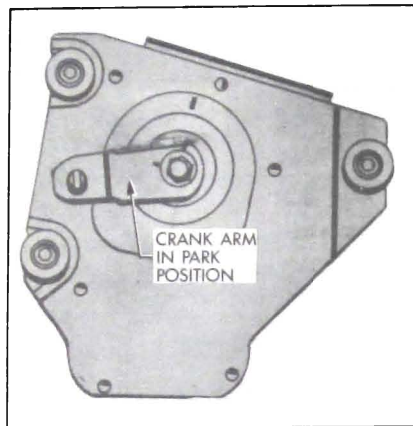
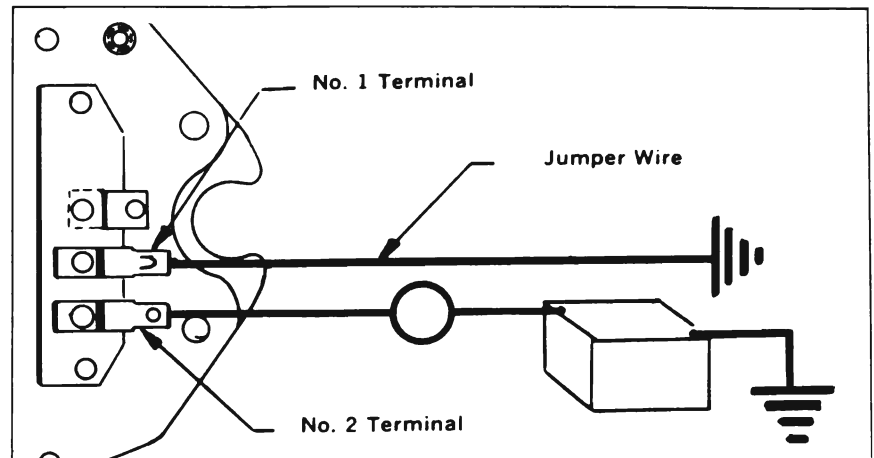

Figure 10-102—Park Position of Crank Arm
Figure 10-104—Connections to Operate Wiper Out of Car
When the car owner shuts the wiper "off" at the dash switch, the motor circuit to ground is opened at the dash. However, the parking switch contacts, which are normally closed, maintain the motor circuit to ground at the wiper. This allows the wiper to keep operating until the blades or wiper crank arm reach the park position (Blades approx. 2" above windshield molding). (Figure 10-102 shows the crank arm in park position.) At the same time the blades reach the park position, a cam on the output gear opens the park switch contacts. This opens the motor circuit to ground, stopping the motor. Thus, the park switch actually controls wiper operation only during that short period of time, after the owner turns the wiper "off" at the dash switch but before the wiper has completely stopped.
Figure 10-104 shows the proper method of connecting jumper leads to the wiper so that it can be operated independently of the dash switch or car wiring for test purposes. (NOTE: Specification table at end of this section lists current draw data.)
operate, disconnect wiring harness from wiper and check for 12 volts at harness terminal that connects to wiper terminal No. 2, Figure 10-104. No voltage indicates defective car wiring. **CAUTION: DO NOT connect hot line to No. 1 terminal.**
(c) Connect 12 volt supply to No. 2 wiper terminal and connect a jumper wire from terminal No. 1 to ground (Figure 10-104). If wiper operates, the dash switch or wiring between dash switch and wiper is defective.
(b) If wiper still operates, disconnect wiring from wiper and connect 12 volt supply direct to wiper terminal No. 2 (Figure 10-104). DO NOT connect any jumper wire to terminal No. 1.
Connect a 12 volt supply and an ammeter to wiper as shown in Figure 10-104 and observe current draw and wiper operation.
Wiper crank arm fails to stop in park position when jumper wire is removed from wiper terminal No. 1 (Figure 10-104).
(b) Check for grounded condition in the internal motor lead that connects to terminal No. 1, Figure 10-104.
Wiper crank arm stops rotating immediately when jumper wire is disconnected from wiper terminal No. 1 (Figure 10-104). NOTE: Crank arm should continue to rotate until park position is reached (Figure 10-102).
2. Reassembly of Crank Arm - Operate wiper to park position (Figure 10-104) and install crank arm on output shaft in the position shown in Figure 10-102. Clamp crank in vise before securing the retaining nut.